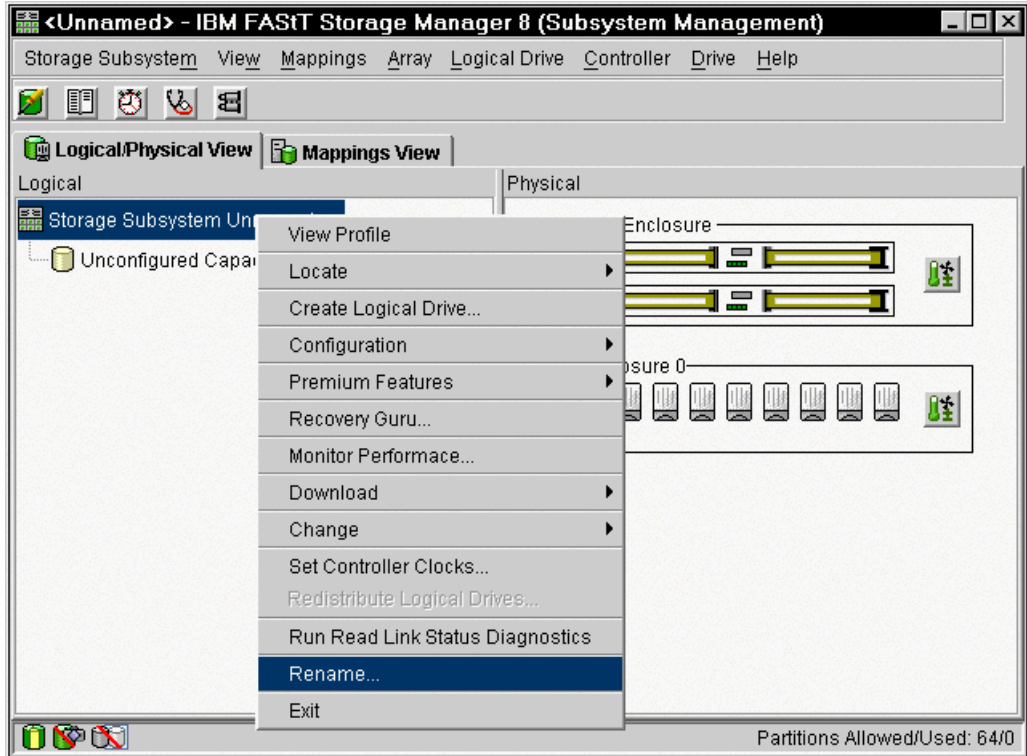

Figure 4-25 Renaming the FAST Storage Server
1. If you installed more than one FASTt Storage Server, it is important to give it a literal name. To rename the FASTt Storage Server, open the Subsystem Management window. Right-click the subsystem, and click **Storage Subsystem-> Rename** (Figure 4-25).